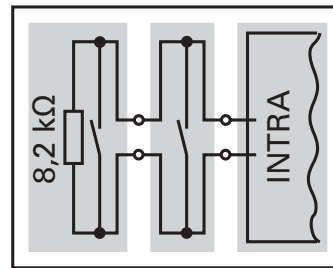

Fig. 10
- Several safety edges on the same input must be connected in series (Fig. 10)
- The last safety edge must be terminated with an 8.2 kohm resistor (Fig. 10)